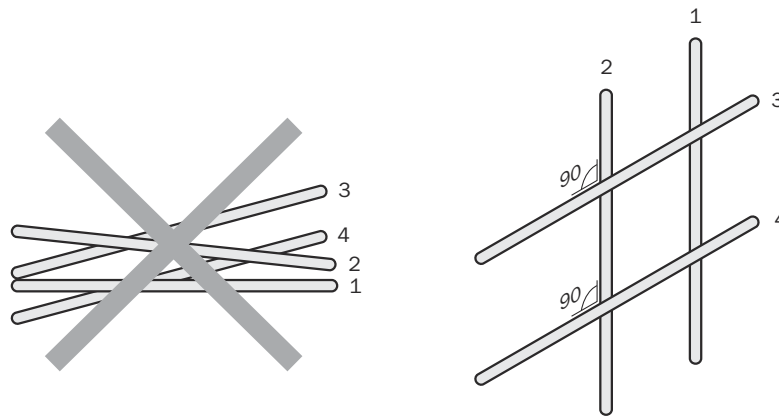

Figure 16: Cross cables at right angles
- ▶ Cables in groups 1, 2 and 3, 4 must be crossed at right angles (see figure 16).